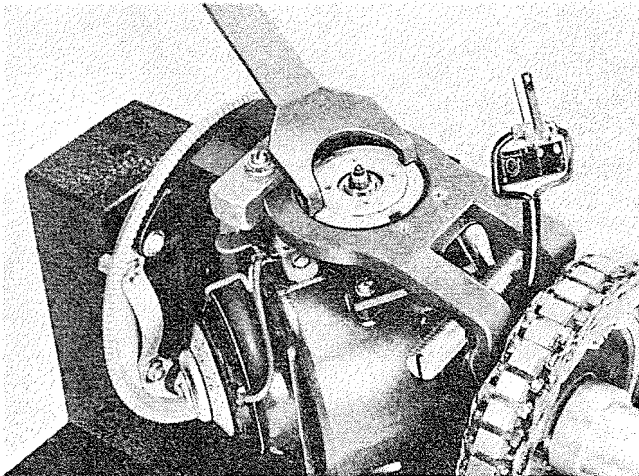

Figure 29
3. Using spanner wrench T100542, loosen both bearing cap lock nuts. (See figure 29.)